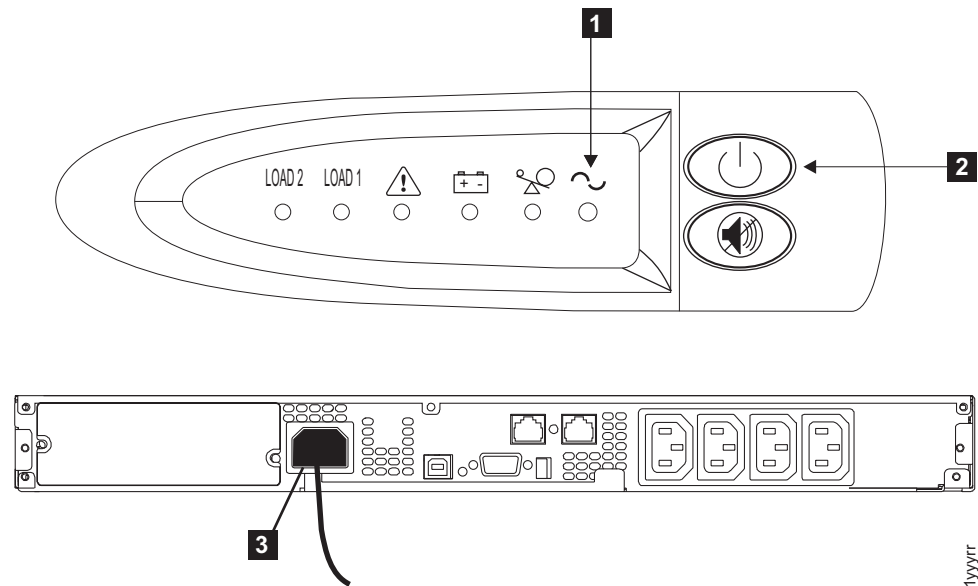

Figure 135. Front and back panels for the 2145 UPS-1U
- Press and hold the on/off button **2** until the power light **1** is extinguished (approximately five seconds). The 2145 UPS-1U enters standby mode, with all indicators off. See Figure 135 for an illustration of the front and rear view of the 2145 UPS-1U.